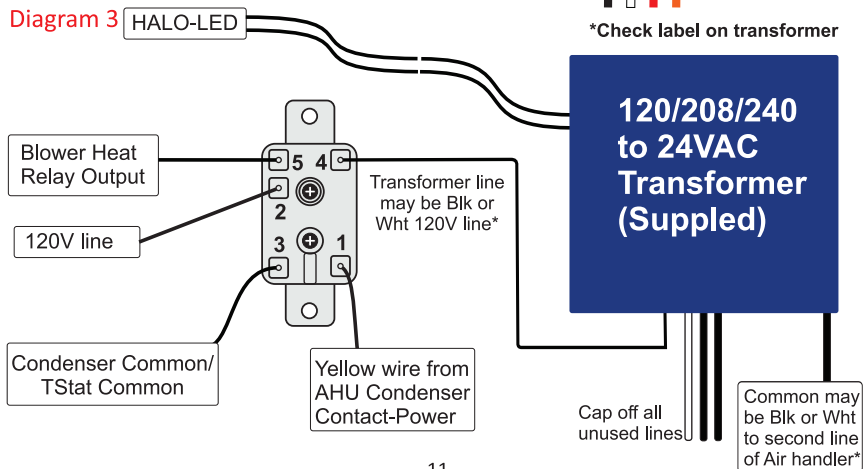

Figure 5
- Insert unit into opening with the arrow indicator going in the same direction as the airflow of the HVAC unit. Once attached to duct, press firmly all around the flange to ensure a proper seal. Refer to Figure 5. In some installations, it may be preferred to secure the unit with the provided screws via the three mounting holes located on the HALO-LED™ mounting plate.